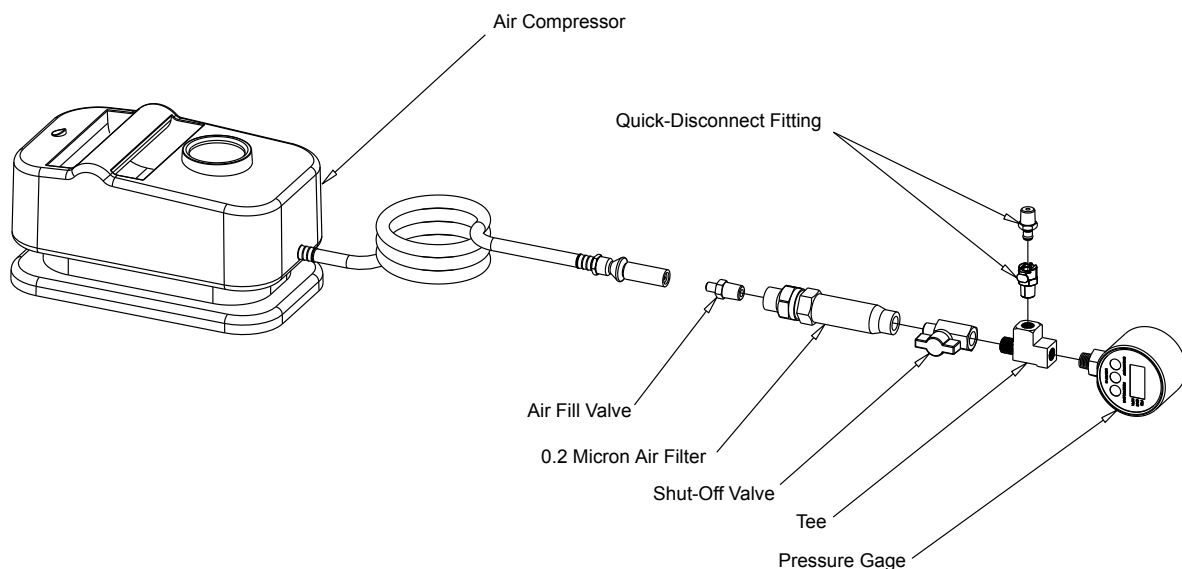

Figure 7: Technician's Decay Test Assembly
Equipment (See Figure 7)
9. Connect the Technician's Decay Test Components, Figure 7, with the quick connect fitting to the valve at the bottom of the module (see Figure 8).
11. With the drain solenoid valve closed, carefully pressurize the feed side (the inside of the fiber lumens) to 15.1 psig (1.0 bar) to 15.4 psig (1.0 bar) by pressing the air compressor hose chuck onto the air supply valve on the Technician's Decay Test Components, Figure 7. DO NOT PERMIT THE MODULE TO BE PRESSURIZED TO GREATER THAN 16 PSIG (1.0bar).